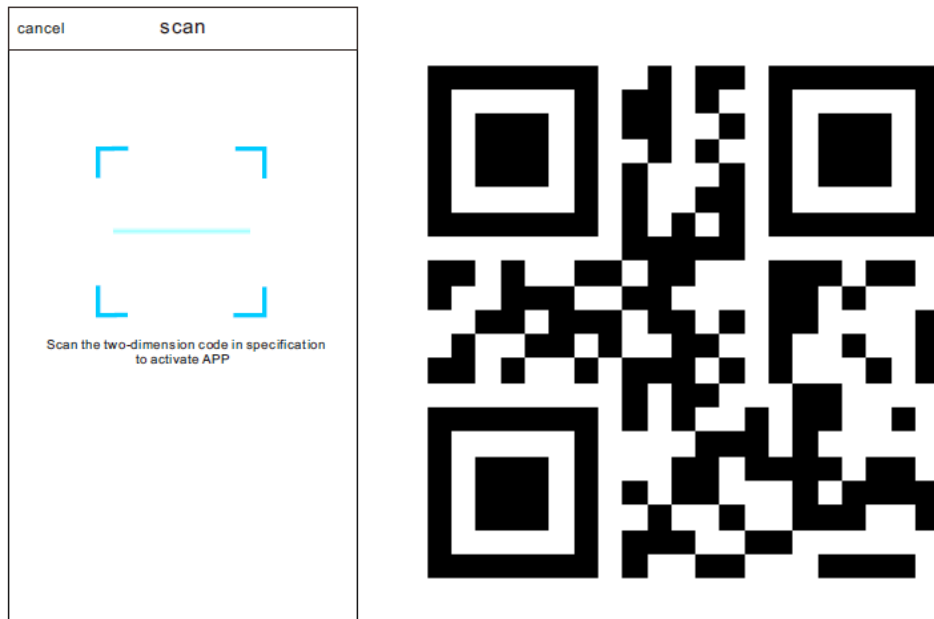

Fig.3
1. SCAN Function: By clicking “scan” and scanning the QR code on the right (See Fig.3)